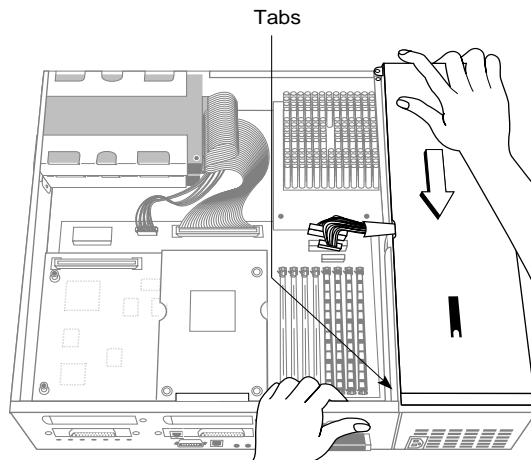

Figure 9-30 Installing the Power Supply
- Grasp the replacement power supply with your right hand and place your left hand on the front of the chassis as shown in Figure 9-30.